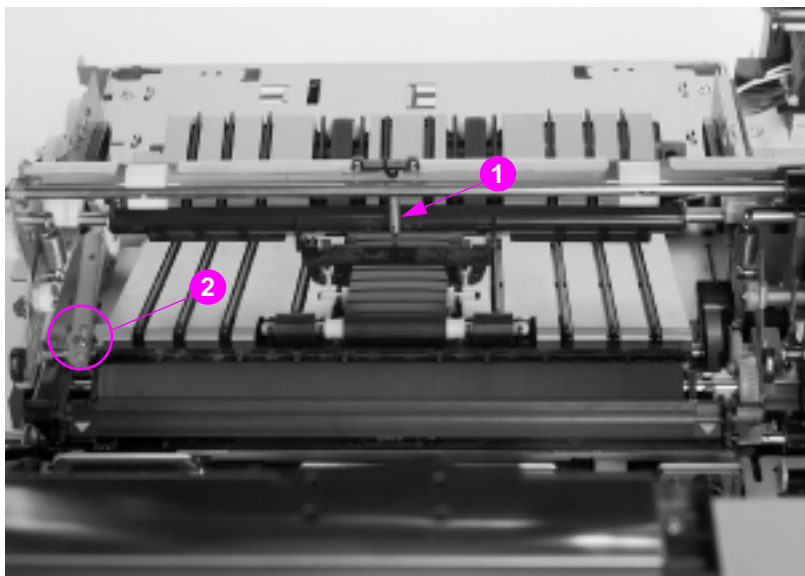

Figure 6-65 Star wheel assembly removal and replacement
- 3 Disconnect the spring as shown in Figure 6-65 (callout 1).